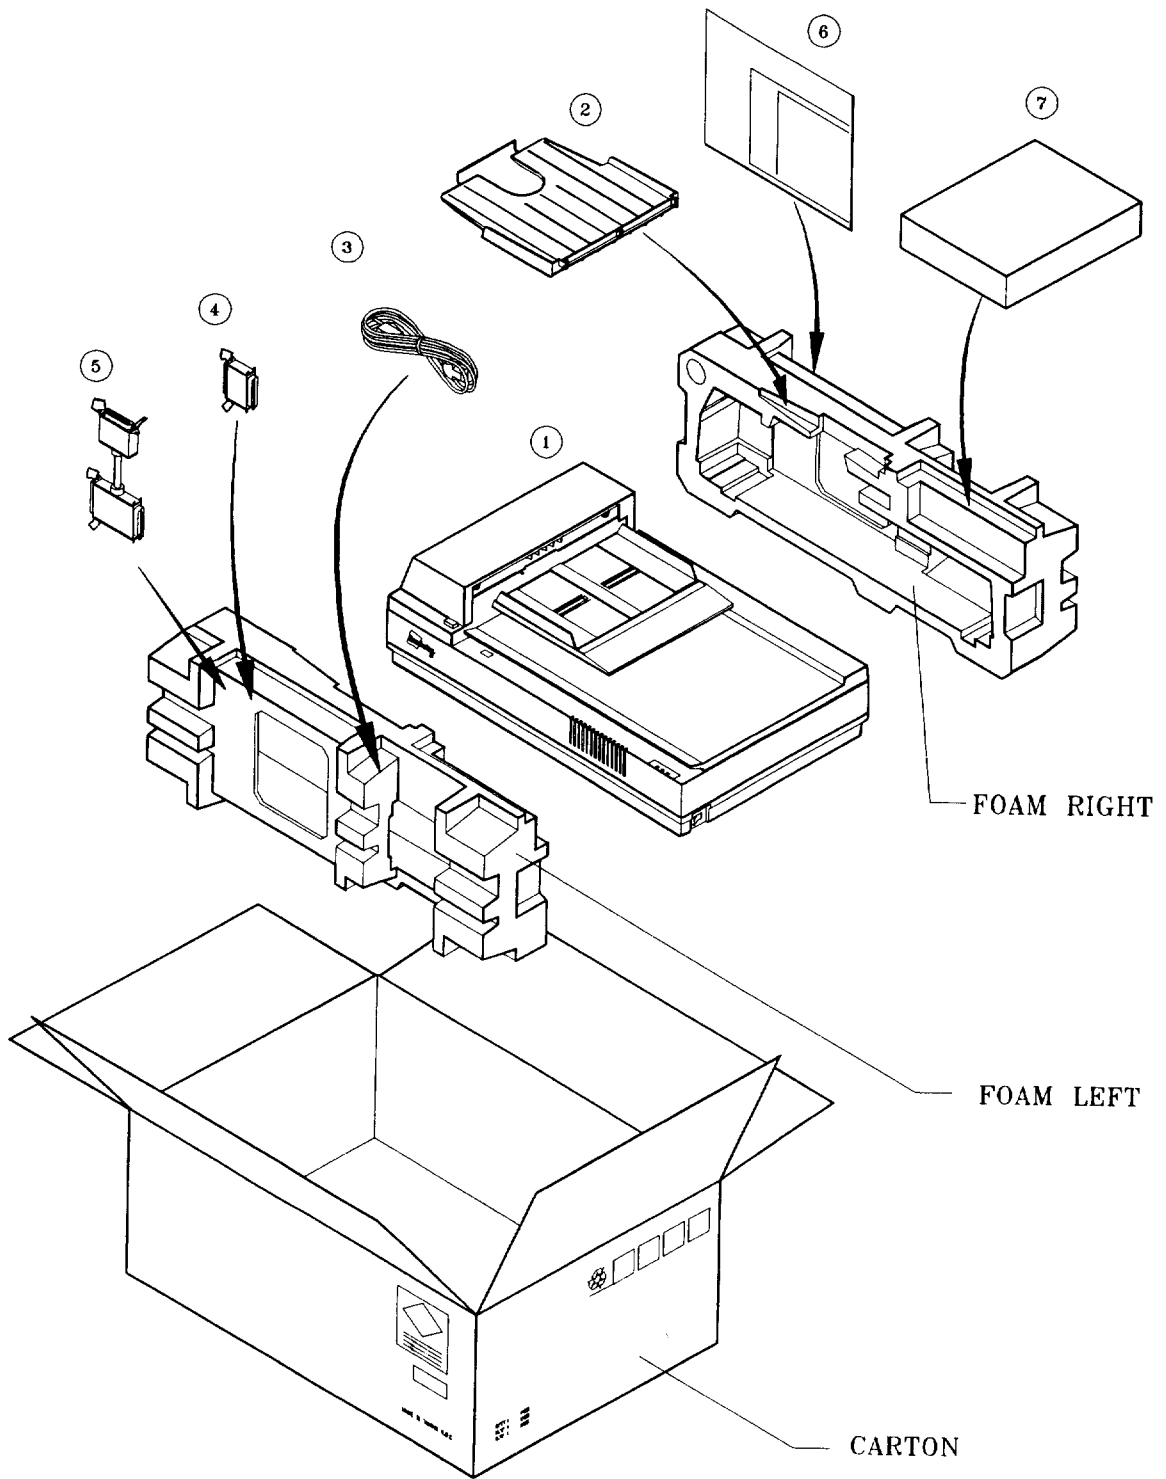

Figure 2.1 Parts in the package
5. Check the items by referring to Figure 2.1 and the Checklist in the table below.